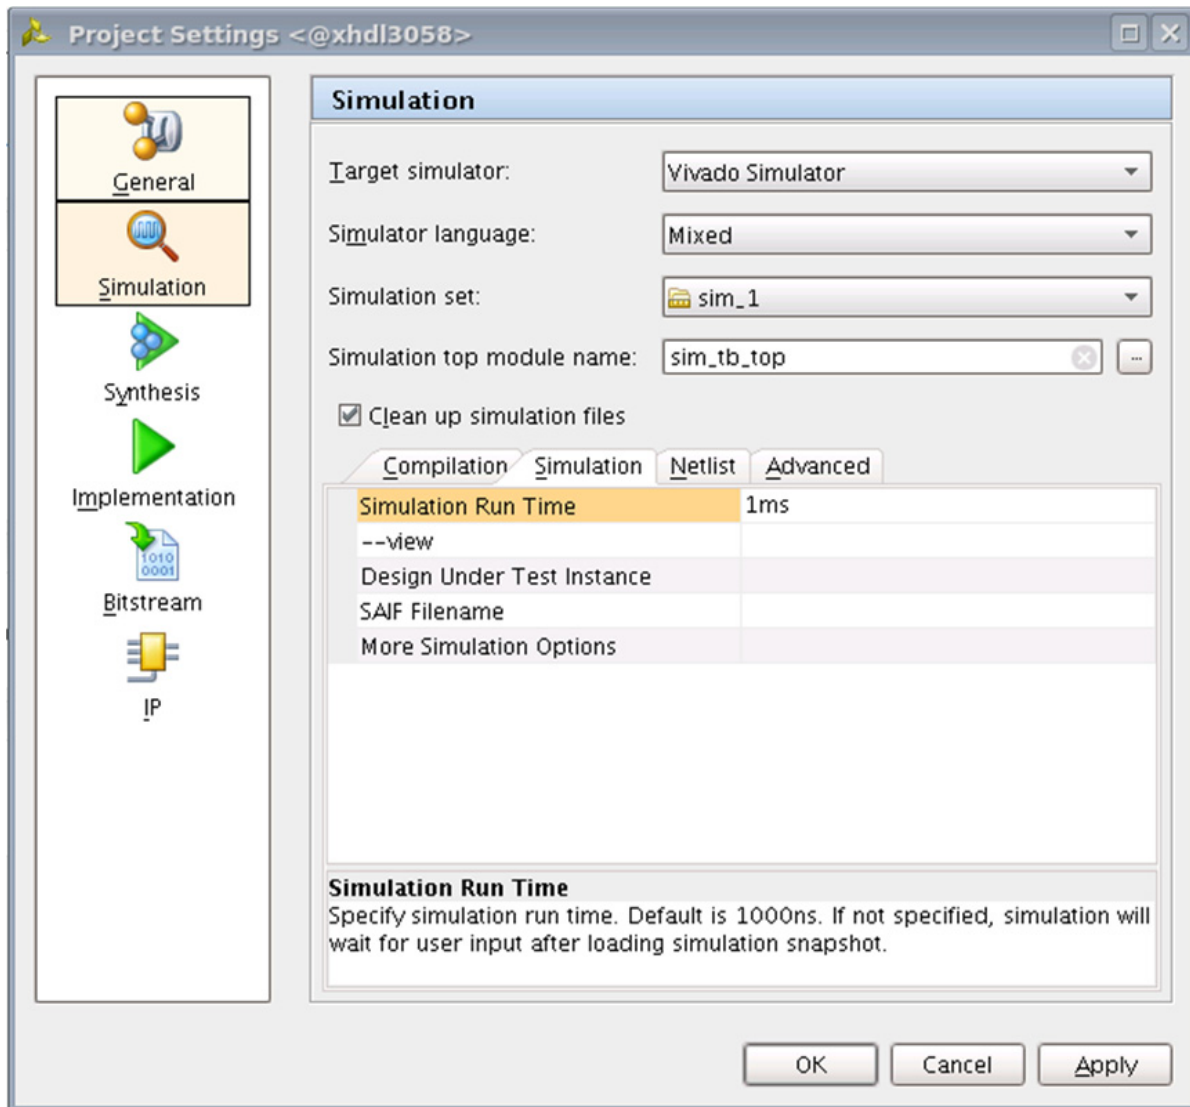

Figure 4-39: Simulation with Vivado Simulator
1. In **Open IP Example Design** Vivado project, under **Flow Navigator**, select **Simulation Settings** (Figure 4-39).
- Under the **Simulation** tab as shown in Figure 4-39, set the **Simulation Run Time** as 1 ms (there are simulation RTL directives which stop the simulation after certain period of time, which is far less than 1 ms). Apply the settings and select **OK**.
- b. Under the **Simulation** tab, set the **Simulation Run Time** to 1 ms (there are simulation RTL directives which stop the simulation after certain period of time, which is far less than 1 ms), set **More Simulation Options** to **-novopt** as shown in Figure 4-39.